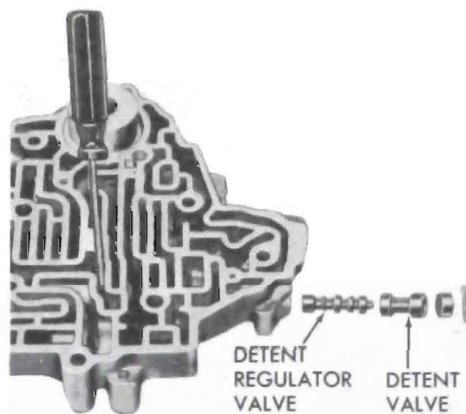

Figure 76-613
8. In the next bore up, install the detent spring and spacer. Compress spring and secure with small screwdriver. See Figure 76-613.
9. Install the detent regulator valve. Wide land first. See Figure 76-613.
10. Install the detent valve, narrow land first. See Figure 76-613.
11. Remove the screwdriver as the bore plug (hole out) and retaining pin are installed. See Figure 76-613.